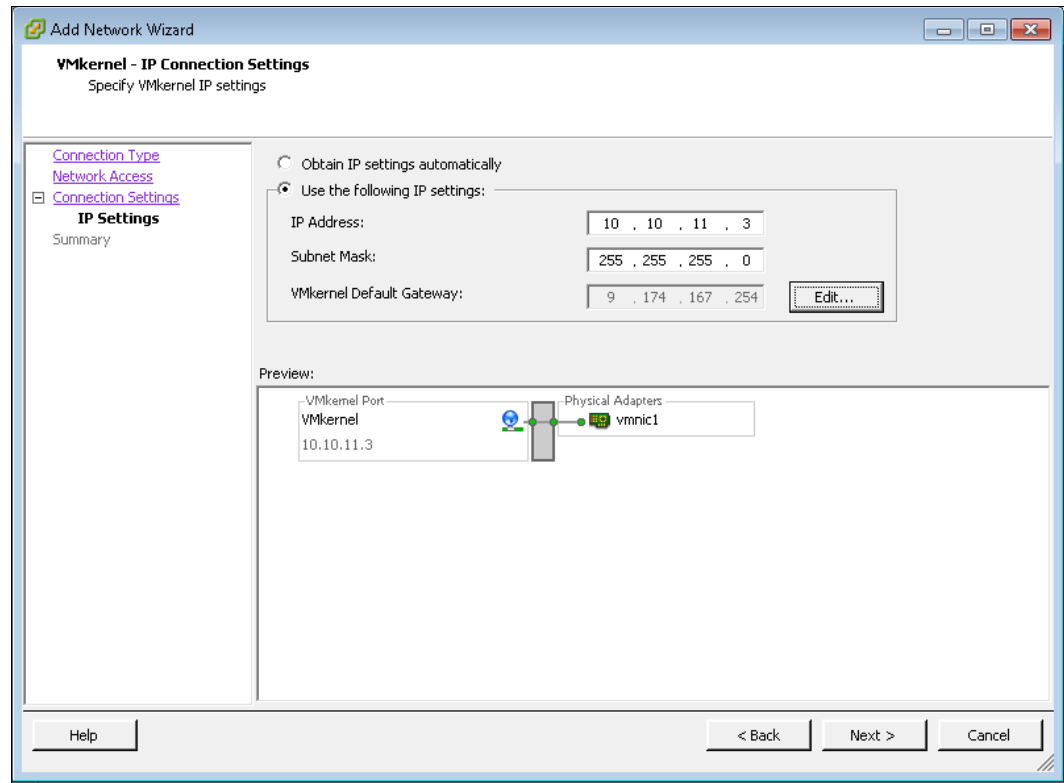

Figure 4-12 Enter iSCSI Network IP
5. Enter an IP address for your iSCSI network. You should use a dedicated network for iSCSI traffic, as shown in Figure 4-12.